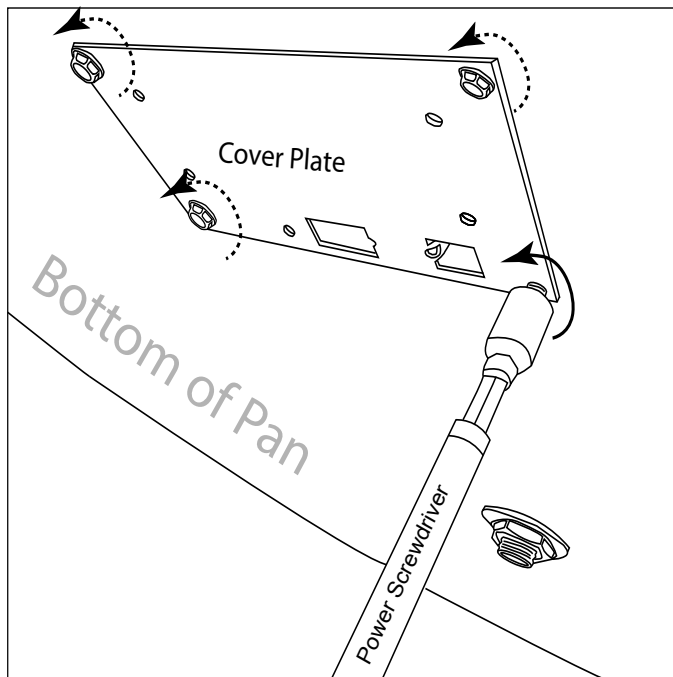

Fig. 1. Removing 4 cover plate screws.
Step 2: Invert the burner pan up side down and remove the four hex head screws from the cover plate. See Fig. 1. Discard cover plate after removal.